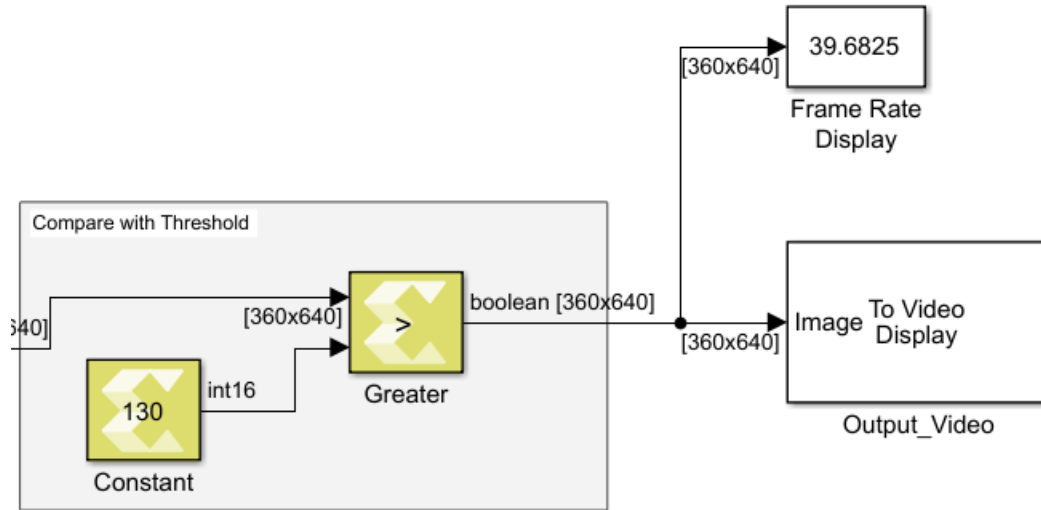

Figure 6: Frames Processed Per Second
- Add the **Frame Rate Display** block from the Simulink **Computer Vision System Toolbox** (under the **Sinks** category) and connect it to the output of the algorithm as shown in Figure 6.